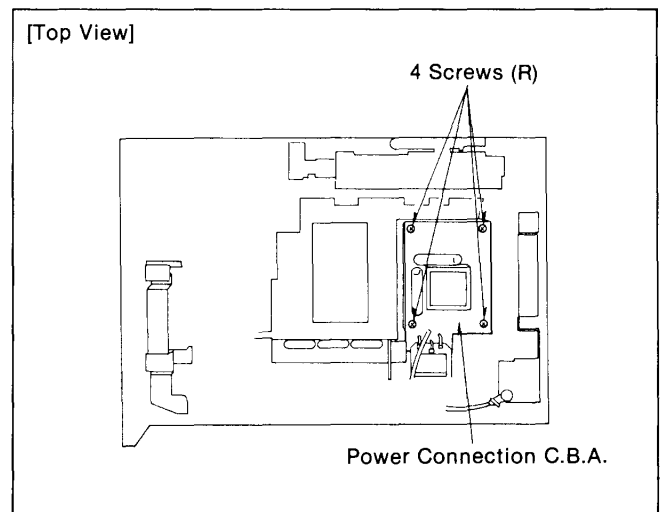

Figure D17
2. Unscrew the 4 screws (R) on the Power Connection C.B.A. (Figure D17).